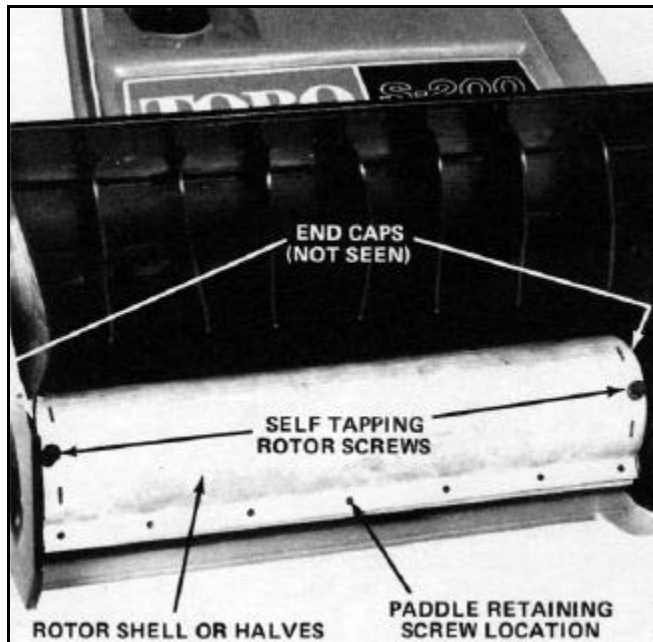

Figure 73
3. Remove all screws retaining the rotor paddles to the rotor halves. Also, remove the four self-tapping rotor screws, which locate the rotor halves in the correct position around the end cap assemblies (Figure 73). (**Note:** Earlier models may not have rotor location screws.) Remove rotor halves and paddles.
6. Assemble rotor halves. To locate the rotor halves into the correct position in the end plates, loosely install the four self-tapping location screws (Figure 73).